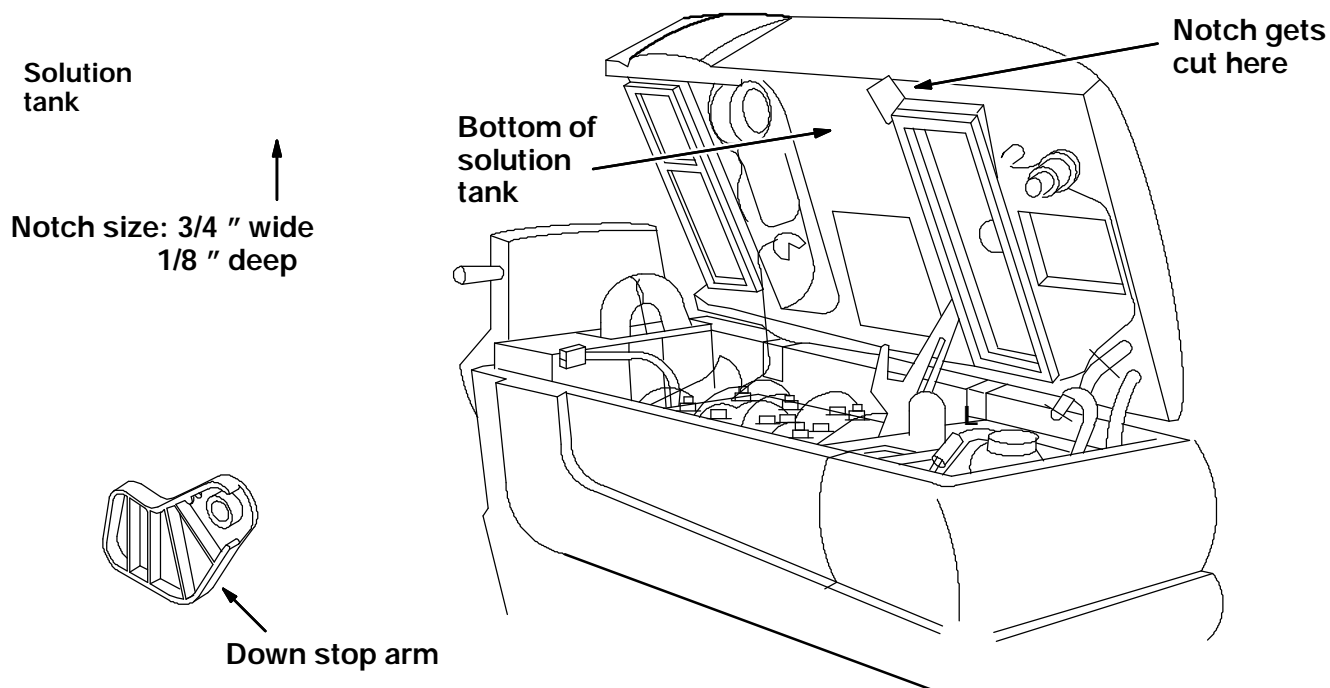

FIG. 1 - Notch Location
(Refer to FIG. 1)
2. Raise the solution tank and engage the tank prop arm. (Refer to Fig. 1)
3. Locate the down stop arm on the bottom of the solution tank. Make a mark on the solution tank on both sides of the arm approximately 1/8 in. wider than the arm itself. (Refer to Fig. 1)
5. Let the down stop arm return to it's normal position. Make sure the arm fits in the slot that was just cut. If it does, the procedure is complete. (Refer to Fig. 1)